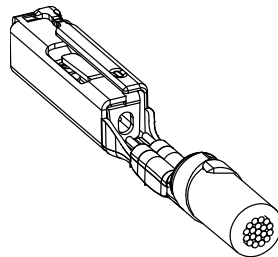

Figure 2
*Make sure all terminals are properly crimped and appear as shown in Figure 2.*